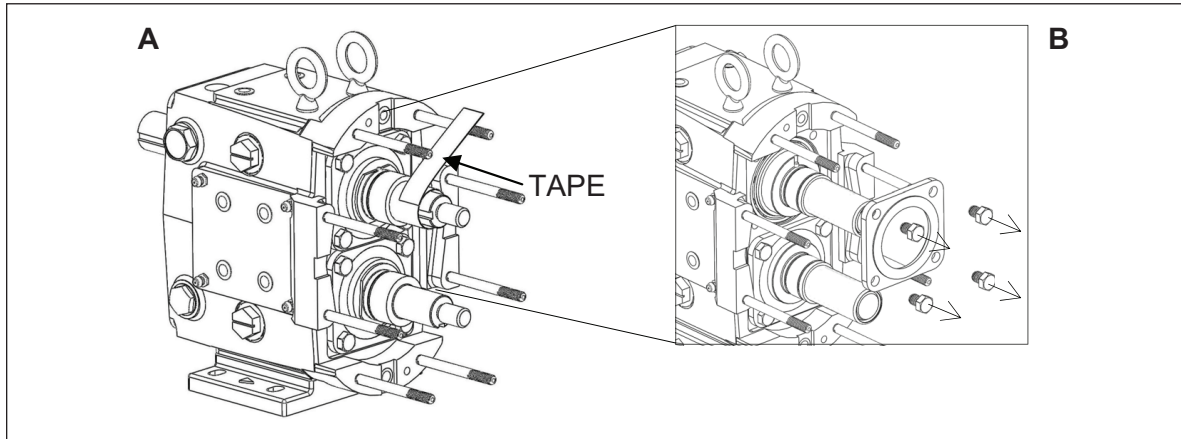

Figure 32. Tape Shafts and Remove Bearing Retainers
3. To prevent damage to the shafts, wrap the splines and rotor nut threads with tape (*Figure 32, A*). Any damage to the splines or threads may require the shaft be replaced. Remove the cap screws holding the bearing retainer and splash plates in place and slide both off the shaft (*Figure 32, B*). If they are stuck, use a flat head screw driver as a wedge to pry them from the gear case or leave them in place and when the shafts are removed they will press off with the shafts. Using a straight edge, remove the liquid gasket used to seal bearing retainer to the gear case.